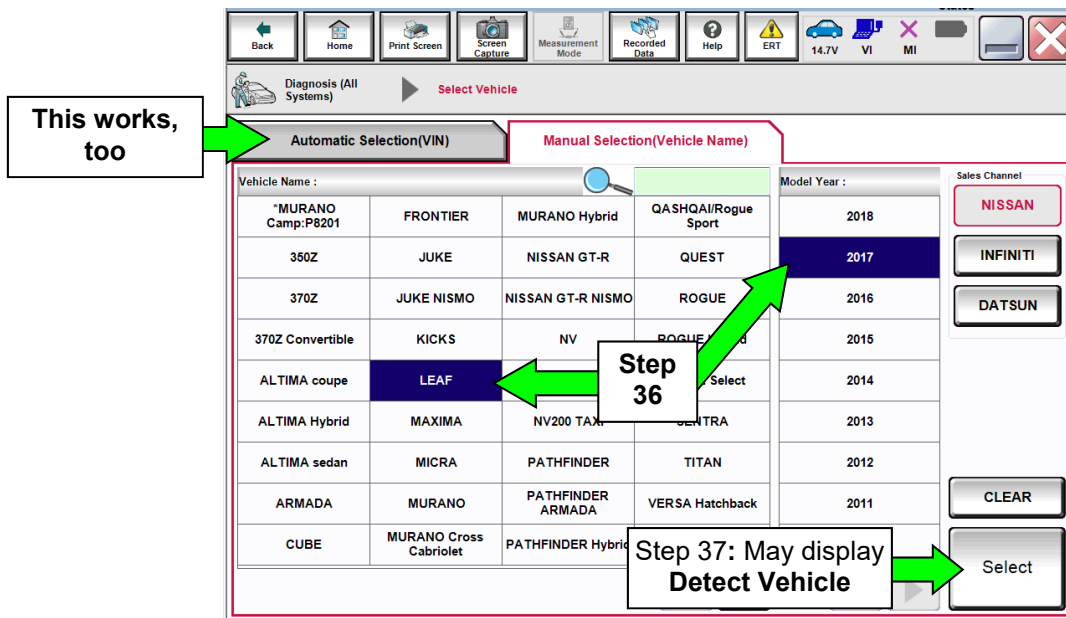

Figure 29
- If the screen in Figure 29 does not display, skip to step 38.